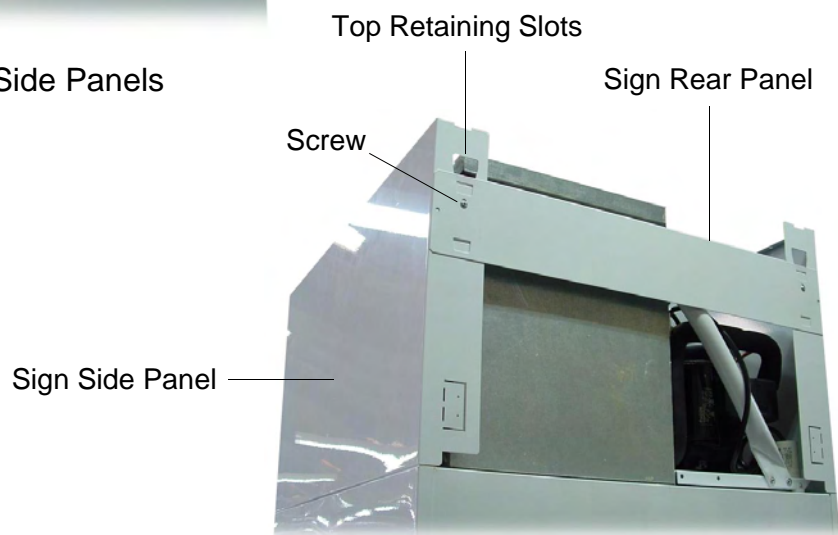

Figure 3: Sign Rear Panel
3. Clip the sign rear panel into the top retaining slots at the rear of the side panels (see Figure 3 below) and fasten with the two screws provided.